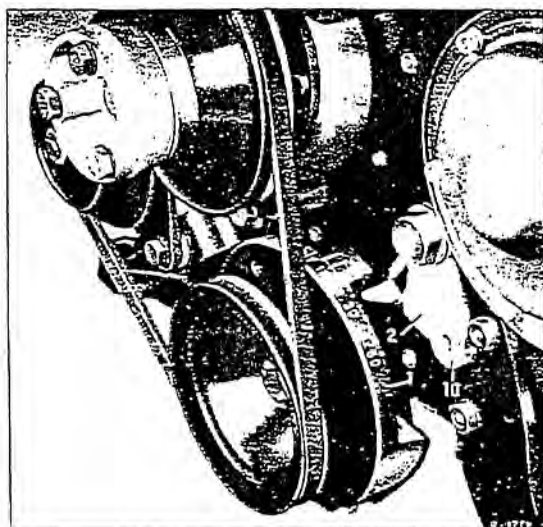

Fig. 00-8/1
1. Set the piston of the first cylinder to ignition dead center. The piston reaches this position when the pointer (2) registers with the TDC mark on the counterweight (1) (Fig. 00-8/1), and both the inlet and the exhaust valves of the first cylinder are closed. In this position there is no pressure on the rocker arms 1 and 2 and the valves 7 and 8 of the fourth cylinder are both in operation, i. e. the exhaust valve closes and the inlet valve opens.